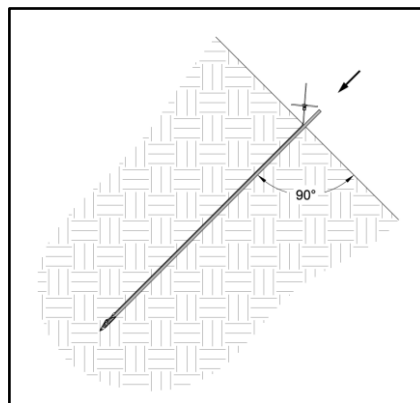

**Figure 22: Insert Drive Steel into Anchor**
2. Insert the tapered end of the drive steel into the hollow cavity of the anchor head. Position the anchor head/ drive steel tip above the ground at the drive location (Figure 22 and Figure 23).